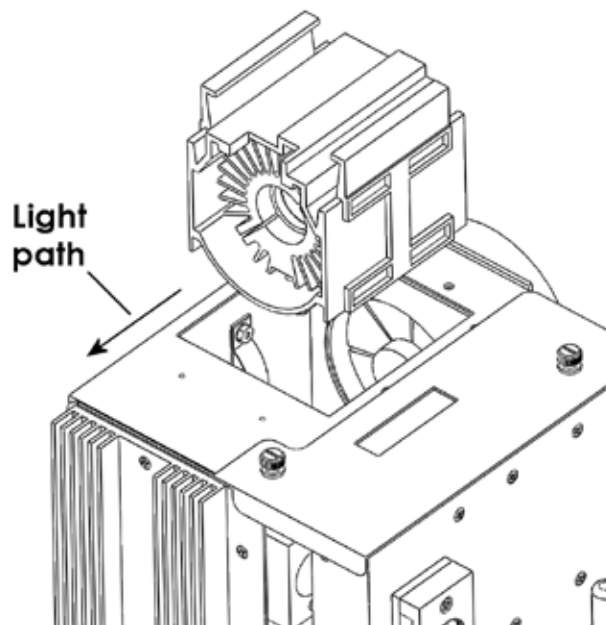

Figure 8. Returning the bulb assembly to the Lambda-LS.
| Figure 8. Returning the bulb assembly to the Lambda-LS.....                       | 9  |
1. Grasp the sides of the housing and carefully lower it, terminals forward, into the cabinet. The sapphire window should point away from the lamp fan (Figure 8).